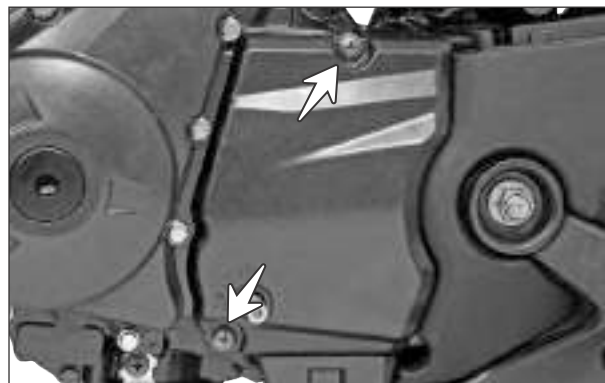

Fig. 3.102
- ! Remove CRR pan head screw (M6x20 - 2 nos.) from the cover engine sprocket and take out cover engine sprocket. (Fig. 3.102)